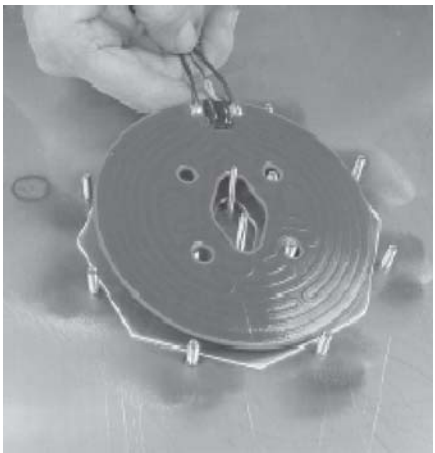

Figure 3-51
9. Install new heater, making sure the flat side is towards the plate and the soldered wires are exposed, as shown in Figure 3-51.